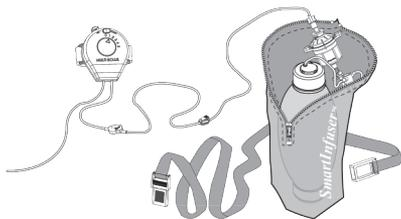

Figure 18
1. Place the compression unit and the regulator in the carrying pouch and then zip the pouch closed. Verify that the tubing is free and no kinks have occurred (See figure 18).